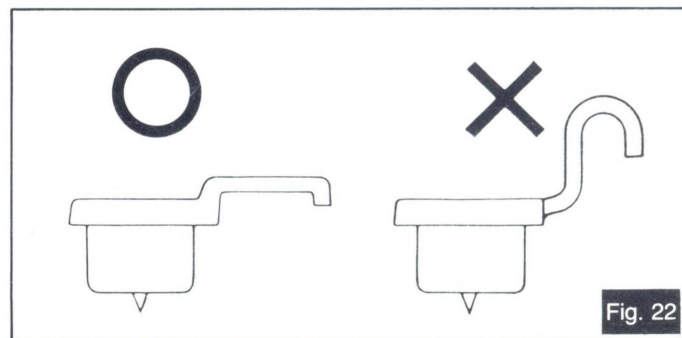

Fig. 22
- 4 **When using other headshells, make sure that the headshell configuration is compatible. (See Fig. 22.)**